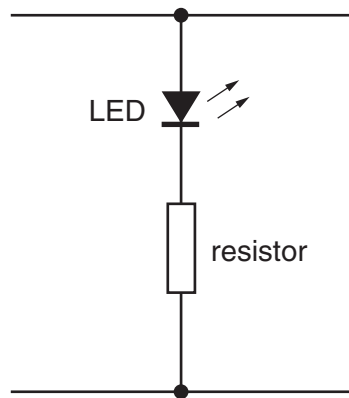

Fig. 14
- (ii) Fig. 14 shows an LED in a circuit diagram.